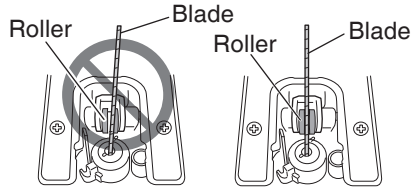

Fig. 3
- Confirm the blade located between the groove of roller. (Fig. 3)